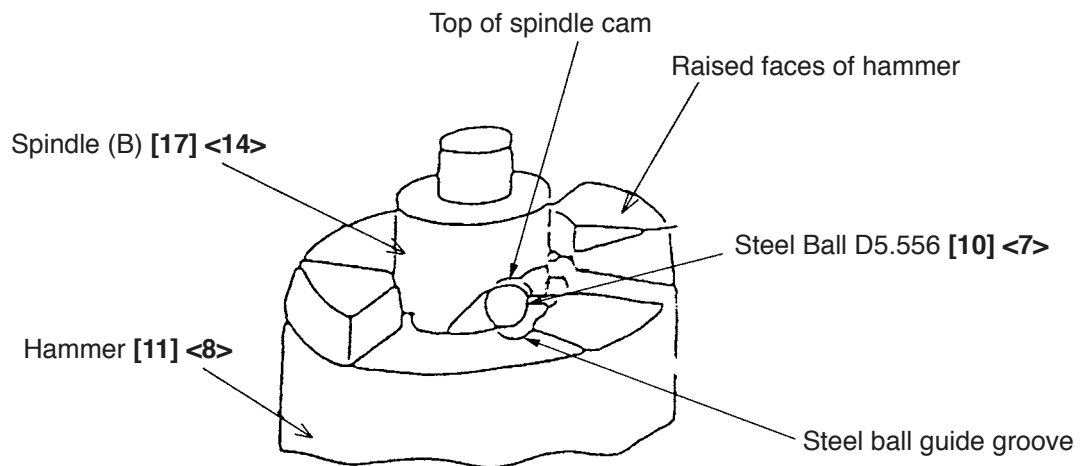
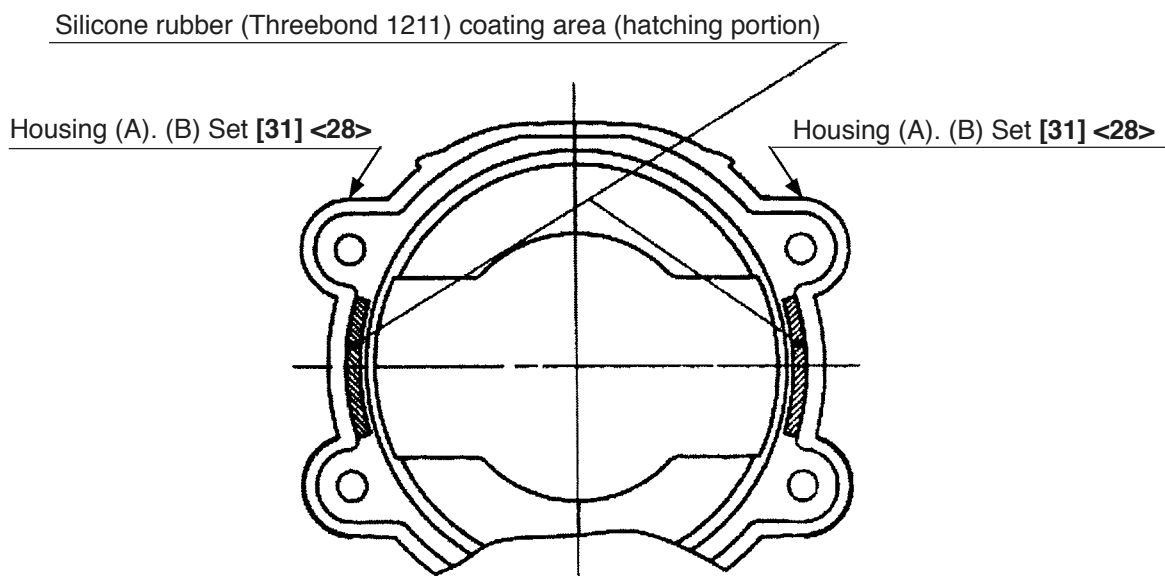

Fig. 9
Fig. 11
(3) Reassembly of the mechanical parts
- (a) Put Washer (S) [15] <12> onto the shaft of Spindle (B) [17] <14> and mount the Hammer [11] <8> containing the twenty-eight Steel Balls D3 [12] <9>, Washer (J) [13] <10> and the Hammer Spring [14] <11> to Spindle (B) [17] <14>.
- (b) Align the top of the cam groove on Spindle (B) [17] <14> with the steel ball guide groove on the Hammer [11] <8> as illustrated in Fig. 9. Press down either of the raised faces of the Hammer [11] <8> with a hand press to compress the Hammer Spring [14] <11> until the end surface of the hammer contacts the flange of Spindle (B) [17] <14> .
- (d) Mount the hammer assembly onto the J-297 base for washer (S). With a hand press, push down the top of Spindle (B) [17] <14> to compress the Hammer Spring [14] <11>. On this condition, mount the Stopper [16] <13> onto the spindle shaft and then release the hand press.
- (e) Mount the Ring Gear [20] <17>, Washer (E) [21] <18>, Ball Bearing 6901VVCMP2L [22] <19>, Inner Cover [23] <20>, Damper [24] <21> and the Retaining Ring [25] <22> to the above reassembly. Furthermore, mount the other mechanical parts and the Anvil [9] <6>, then the Hammer Case [7] <3>.
(4) Mounting the Gear Box Ass'y [1] <1> to the housing
Coat Housing (A).(B) Set [31] <28> with Silicon Rubber (THREEBOND 1211) as shown in Fig. 11. Mount the Gear Box Ass'y [1] <1> so that the pinion press-fitted in the Motor [26] <23> properly meshes with the Idler Gear Set [18] <15>. Check that the Anvil [9] <6> turns smoothly. If not, the gear meshes improperly. Check the meshing condition. Tighten the four Tapping Screws (W/Sp. Washer) D4 x 40 [6] <2>. Wipe the silicon rubber protruded from the housing with a cloth.
(5) Reassembly of the Guide Sleeve [5] (Model WH 12DAF2 only)
Insert the Steel Ball D3.5 [8] into the hole of the Anvil [9]. Mount the Guide Sleeve [5], the Guide Spring [4] and Washer (D) [3] in sequence. Mount the Retaining Ring [2] into the groove of the anvil using J-295 jigs (A) and (B) for retaining ring as illustrated in Fig. 9.